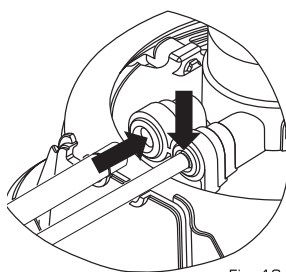

Fig. 13
5. **Insert** each tube into the proper locations on the Bracket until you meet the marks or the marks disappear (Fig. 13).